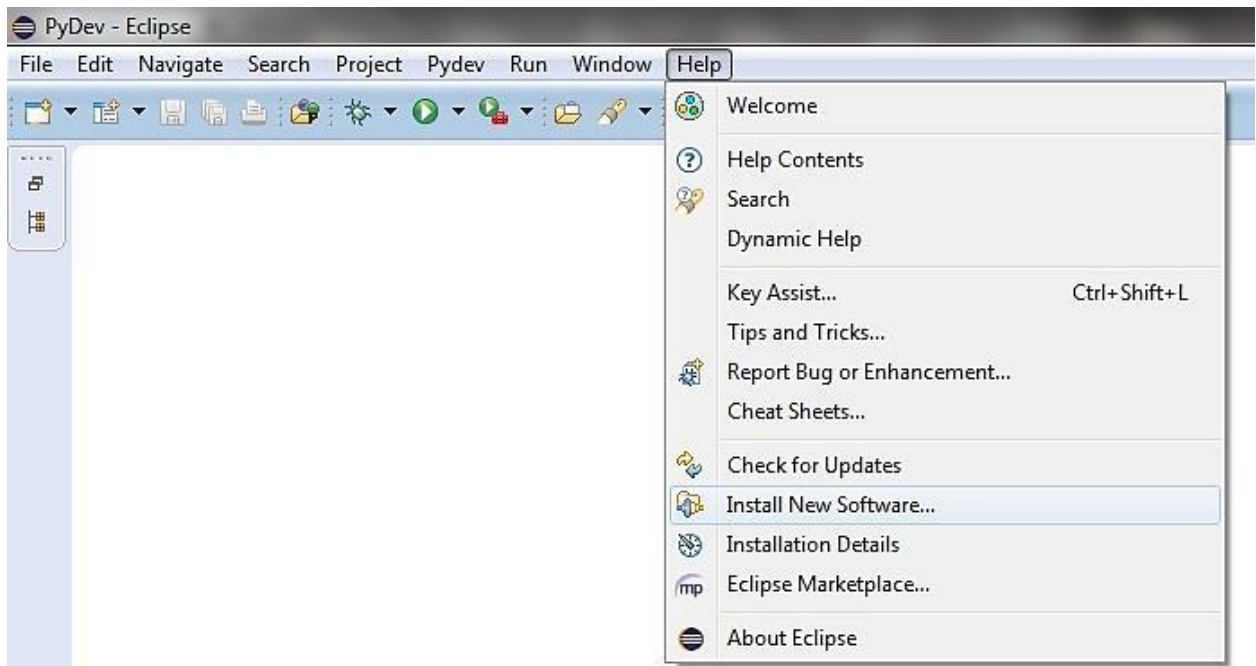

Figure 4: Installing PyDev Plug-in for Eclipse
- Help -> Install New Software (Figure 4).